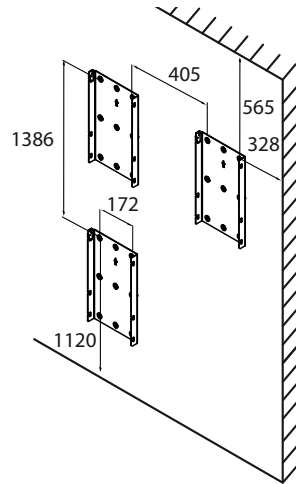
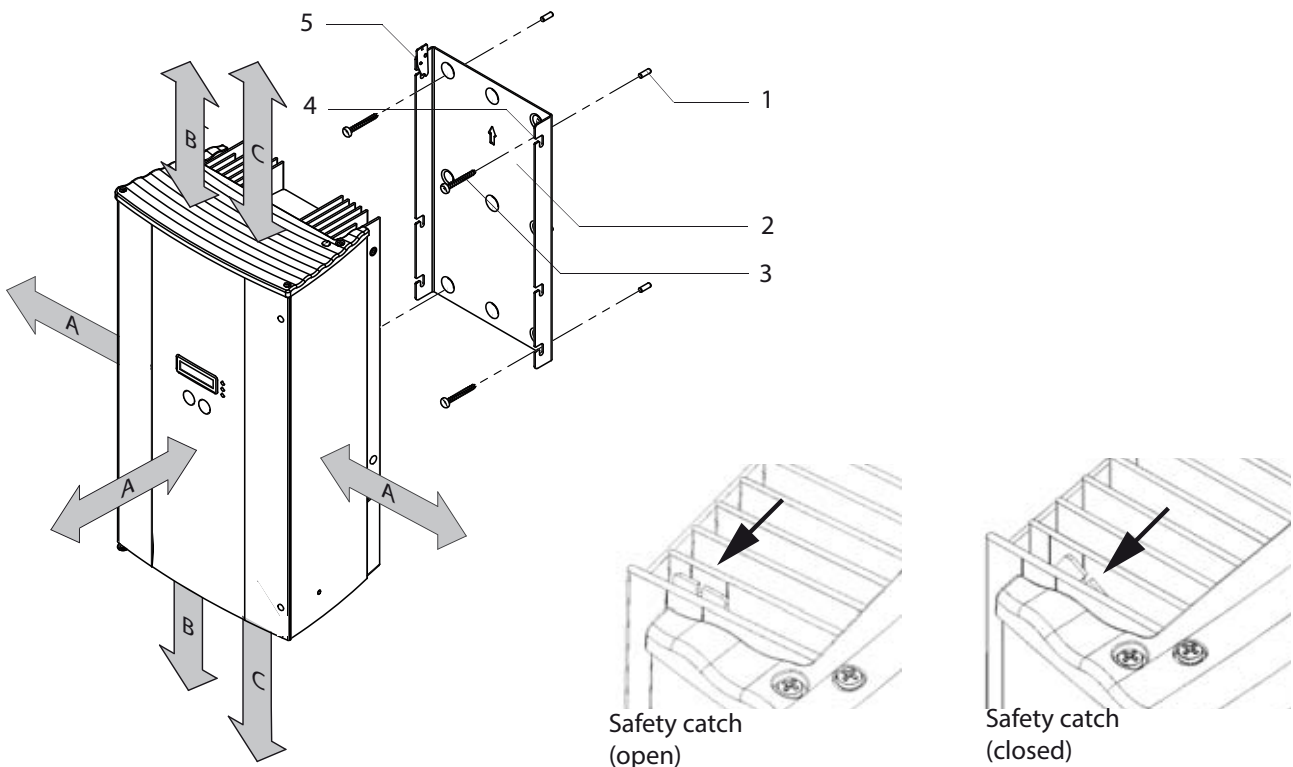

Figure 10: Drill stencil for wall mounting with minimum clearances (in mm)
Figure 11: Minimum distances of inverter
- Minimum clearances to be observed during assembly: see Figure 10 and Figure 11 on page 17.
NOTE: The minimum clearances between two inverters, or the inverter and the ceiling/floor have already been taken into account in the diagram (see Figure 10).
9. Secure the inverter with safety catch. (See Figure 11 on page 17)